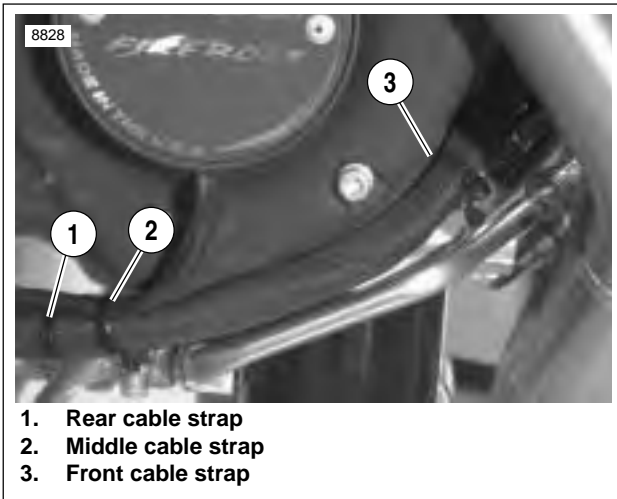

Figure 7-88. Cable Straps
22. See Figure 7-88. Install cable straps:
- a. Front cable strap (3) secures voltage regulator and oil pressure switch wiring.
- b. Middle cable strap (2) secures voltage regulator, oil pressure switch and cam position sensor wiring.
- c. Rear cable strap (1) secures conduit to voltage regulator wiring.